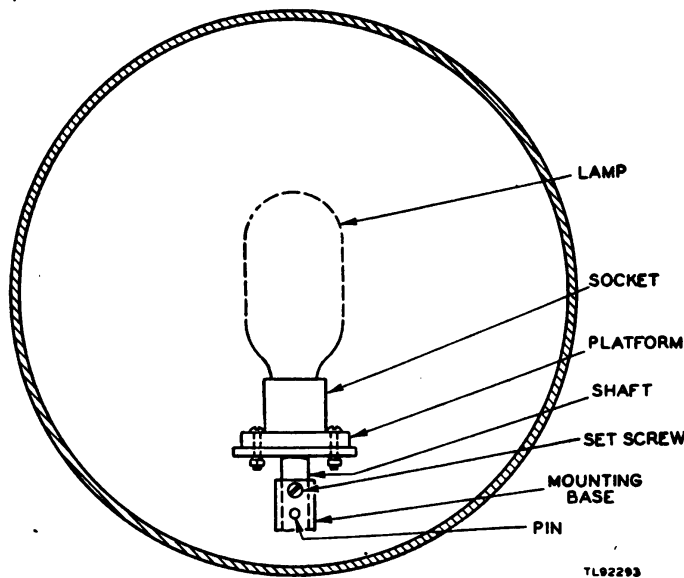

Figure 17. Signal Lamp M-283, lamp mounting.
a. **FACTORY PREFOCUS.** Signal Lamp M-283 is prefocused at the factory so that no focusing adjustment is ordinarily necessary in the field. The bulb has two fins which fit into the slots in the lamp sockets so that the filament cannot be located in an unfocused position. The socket is mounted on a shafted platform, the shaft of which is held in a fixed vertical position in relation to the socket mounting base by a setscrew and tapered pin (see fig. 17).